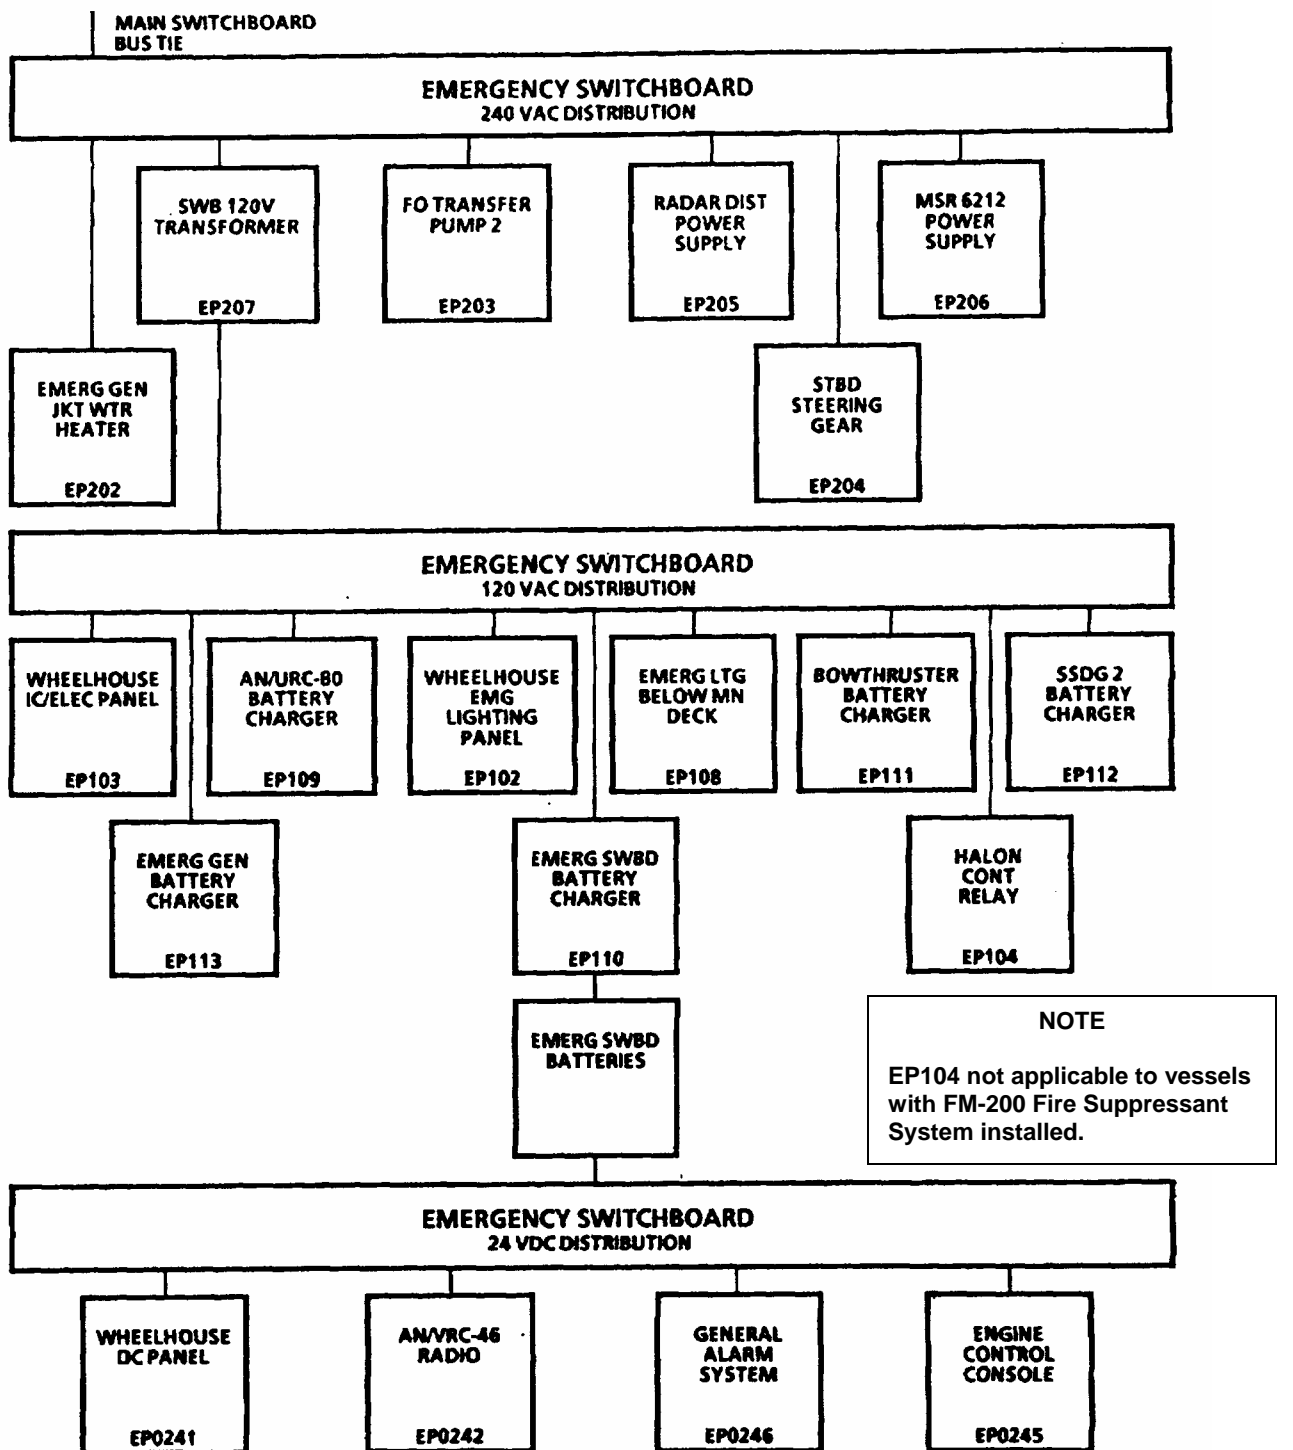

FIGURE 1-31. Emergency Switchboard
d. Emergency Switchboard The emergency switchboard (FIGURE 1-31), located in the emergency generator room, normally receives 240 Vac primary power from the main